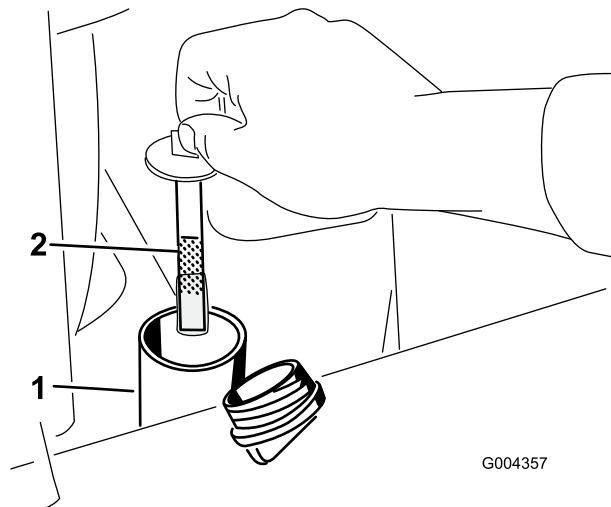

Figure 19
6. Remove the cap from the filler neck and check the fluid level on the dipstick (Figure 19). The fluid level should be between the marks on the dipstick.